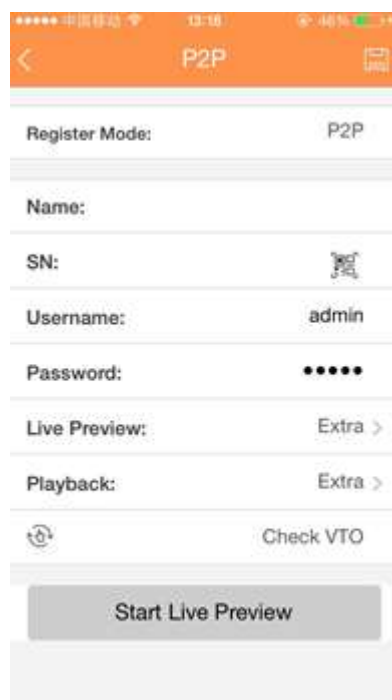

Figure 4-179
3. Tap Device manager button, you can use several modes (P2P/DDNS/IP and etc.) to add the device. Click  to save current setup. Tap Start Live preview to view all-channel video from the connected device. See Figure 4-179.